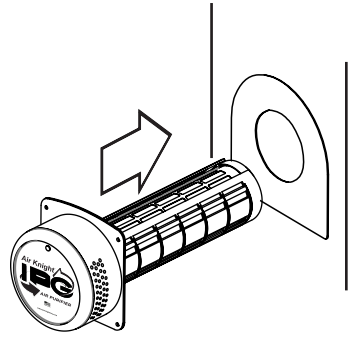

Fig. 3 Cut opening in duct, attach mounting plate, and install device.
- Note: Be sure airflow will pass in the proper direction as indicated by the arrow on the top of the core. (See fig.3)